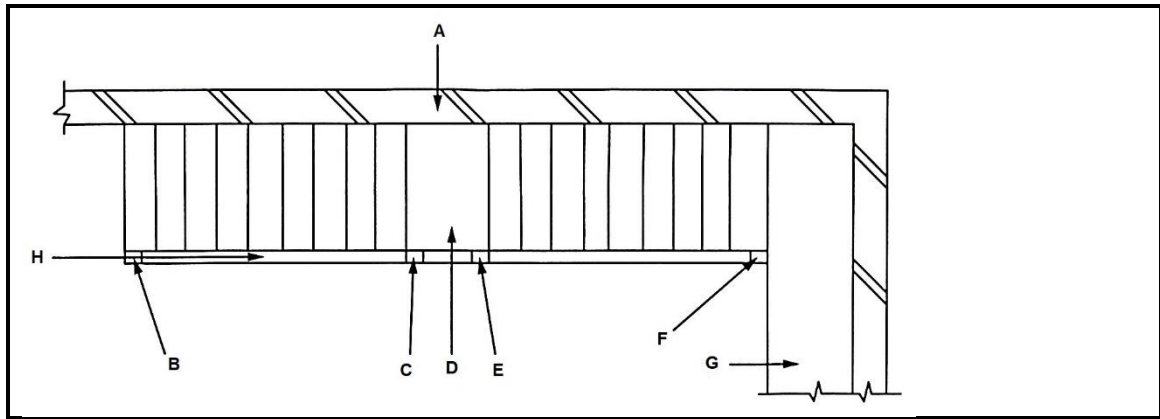

FIGURE 6.1
6.1 FIGURE 6.1 below shows the floor plan of a straight flight of stairs with a landing. Study the picture and answer the questions that follow.